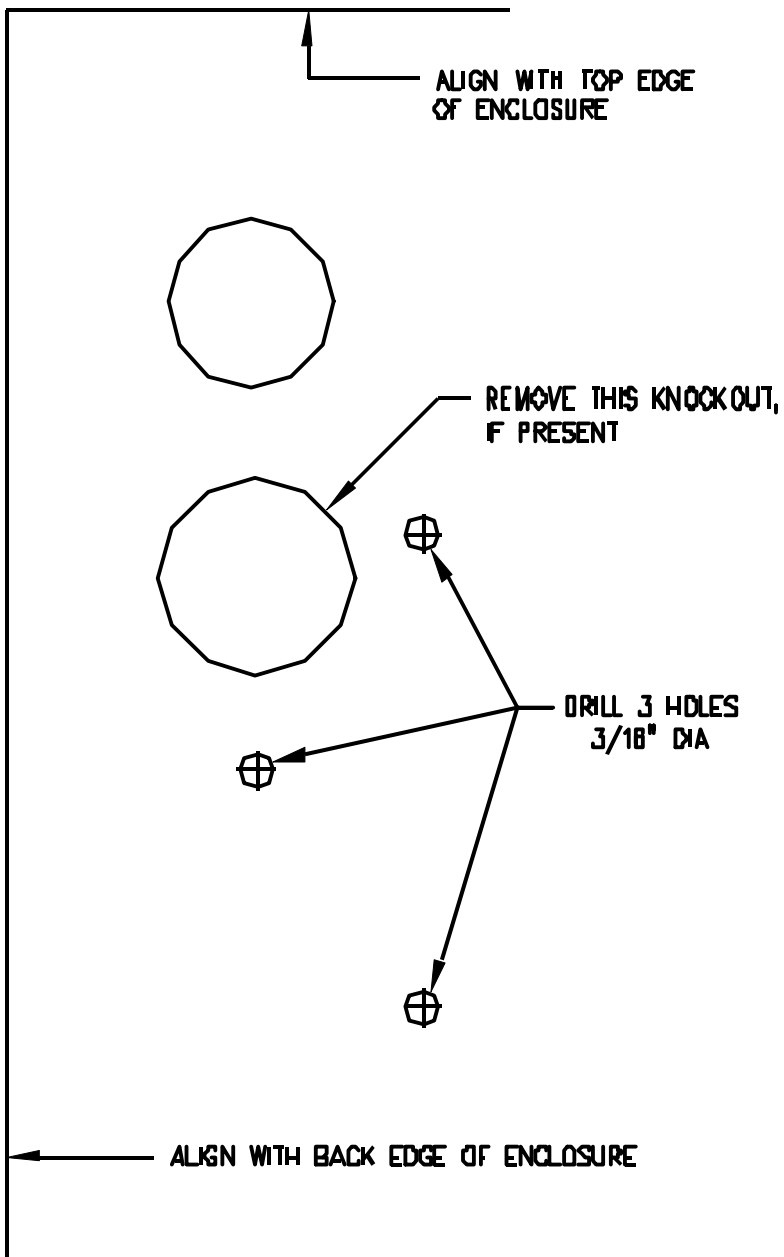

Fig. 5. Mounting Template. Position on exterior left side of enclosure (hinged side).
3. Position the Mounting Template (see Fig. 5) to the outside of the enclosure as indicated and drill three $\frac{3}{16}$ " holes where shown. Remove burrs after drilling.